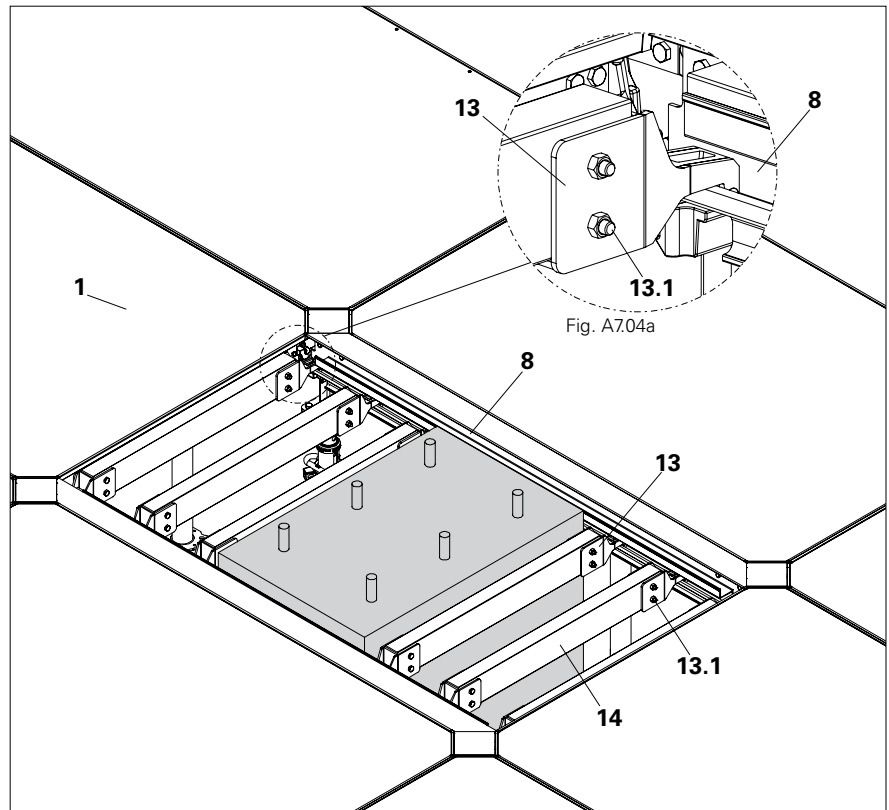

Fig. A7.04
- 6. Place similar assemblies from panel end face up to the column. (Fig. A7.04)